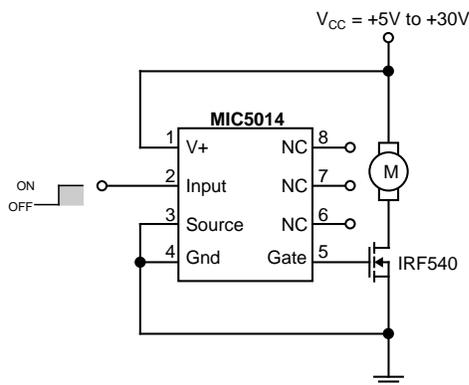

Figure 6: DC Motor Speed Control/Driver
**Variable Supply Low Side Driver for Motor Speed Control** (Figure 6) The internal regulation in the MIC5014/15 allows a steady gate enhancement to be supplied while the MIC5014/15 supply varies from 5V to 30V, without damaging the internal gate to source zener clamp. This allows the speed of the DC motor shown to be varied by varying the supply voltage.